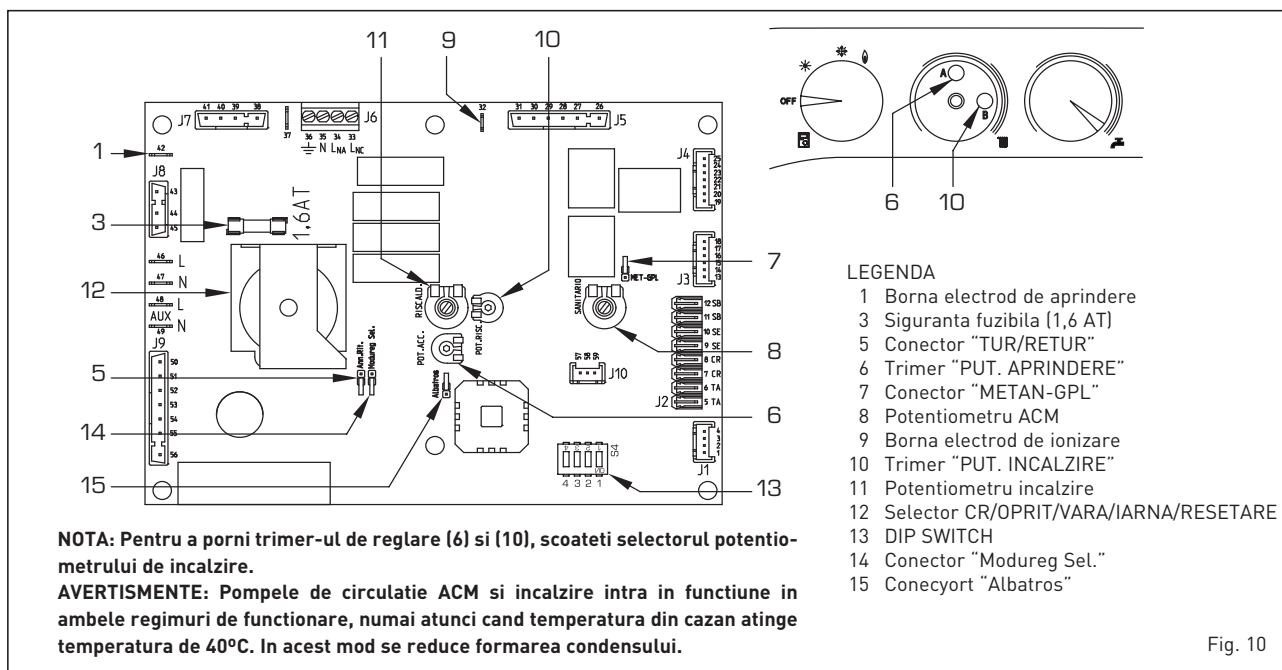

Fig. 10
- Conector "Modureg Sel." [14 fig. 10]